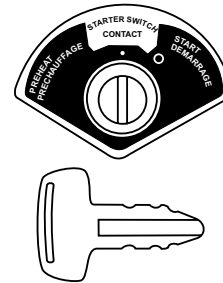

Figure 10. Ignition Switch and Key
4. Insert the ignition key into the ignition switch, (Figure 10)